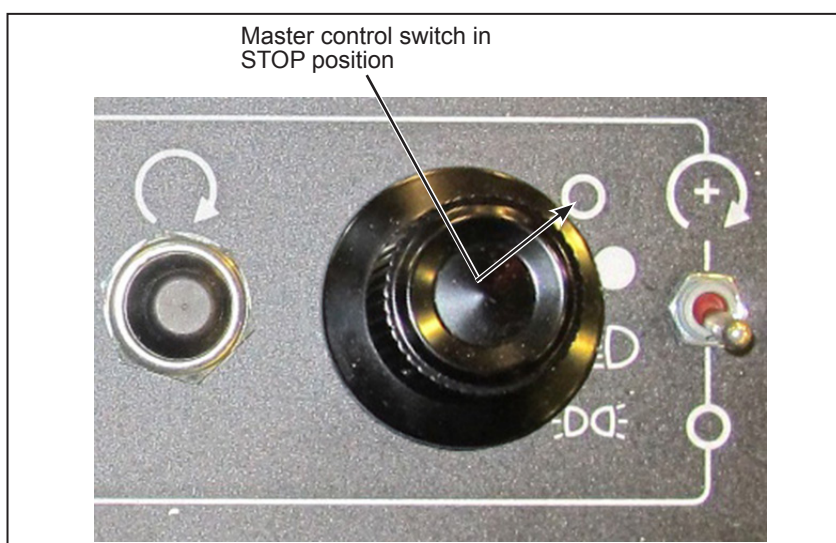

Figure 1 - Master Control Switch in STOP Position
- 1.2. Set the master control switch in the OFF position (see Figure 1)..